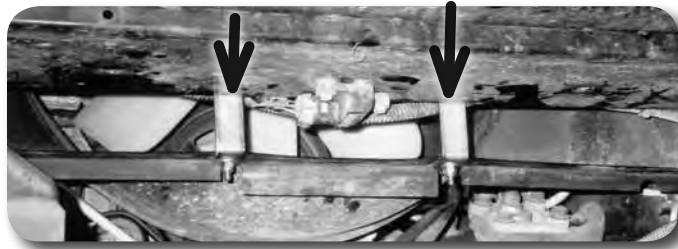

Figure 20
49. Using “L” brackets as templates, mark and drill two 5/16” holes in the fan shroud. Mount fan shroud to the brackets with the provided 1/4” x 1” bolts, nuts and 1/4” USS washers **Figure 20**. Torque hardware to 5 ft-lbs.